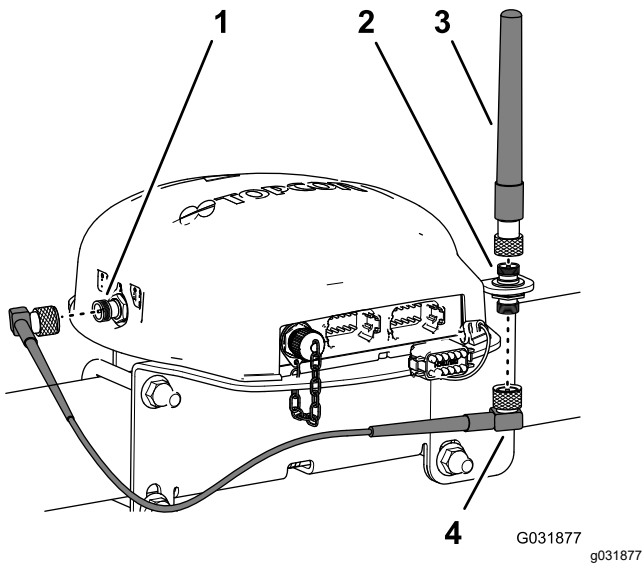

Figure 44
1. Remove the antenna cable between the coaxial connector of the navigation receiver and the RTK-antenna (Figure 44).
2. Remove the RTK-antenna from the coaxial coupler (Figure 44).